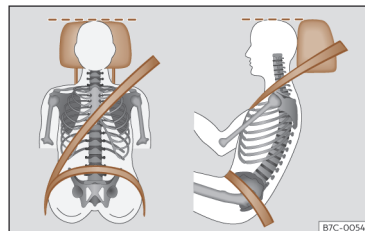

Fig. 15 Correct belt web and headrest positions
- Adjust the head restraint so that its upper edge is, as far as possible, at the same level as the top of your head, as close to eye level as possible¹⁾ >>> page 114. Keep the back of your neck as close as possible to the headrest >>> Fig. 15.
- Adjust the seat lengthwise so that you can press the pedals fully down with your knees slightly bent and there is a distance between the knee area and the instrument cluster of at least 10 cm (4 inches) >>> Fig. 15.